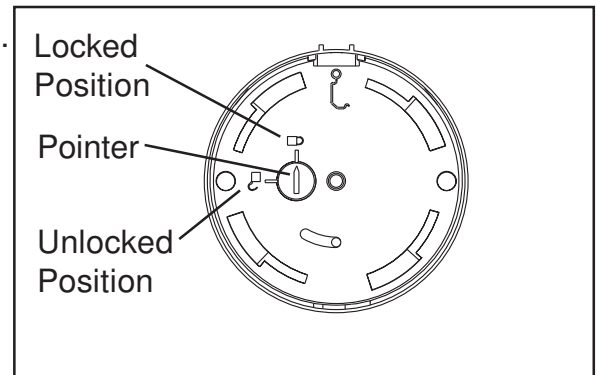

Figure 3-1. Shipping Lock.
3. Place the Shipping Lock in the locked position. See Figure 3-1. This will help protect the Transducer.